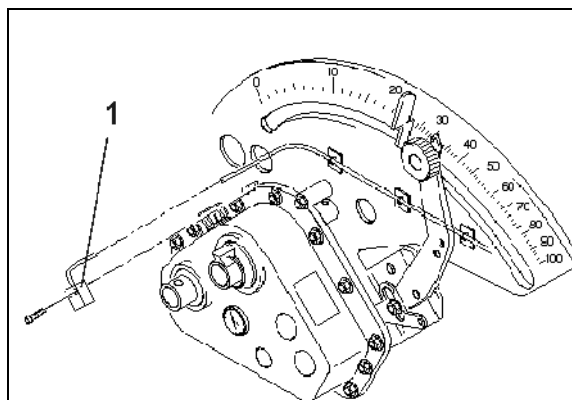

Fig. 8
1. Bolt sensor (Fig. 8/1) on to the Vario gearbox